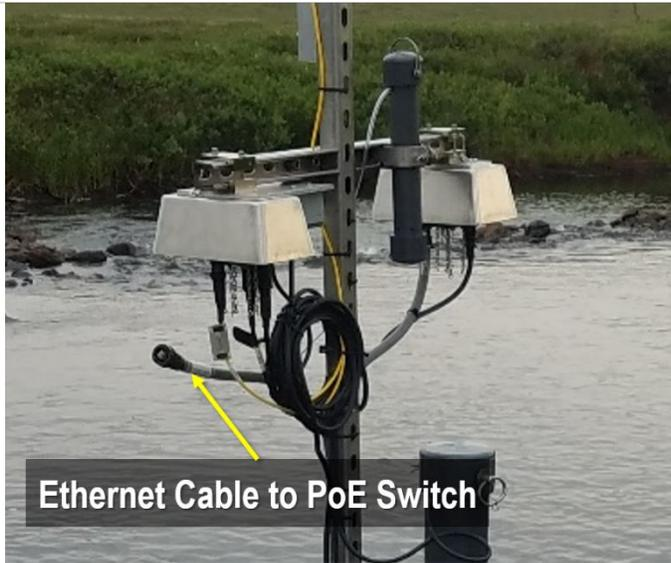

Figure 122. Disconnect ethernet cable (RJF) from Merlot Grape
**STEP 2** | Disconnect the Ethernet Cable (RJF/Eth to Comm on AIS Interconnect Mapping) from the 12V Merlot Grape that powers and acquires data from the Multisonde. This cable connects to the PoE Switch. **Figure 122** shows this cable disconnected from the Grape. Drape the cable over the anchor or device post if zip ties do not hold it in place above water. Do not allow the cable connector to get wet or dirty.